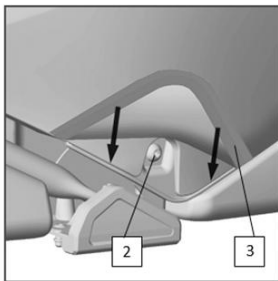

Fig. 24
2. Fix the seat with two socket head cap screws on both sides (posture 2, Fig. 24).
- 3.Tighten the fixing elements of the seat cover (Pos. 3, Fig. 24) and tighten it behind the base.